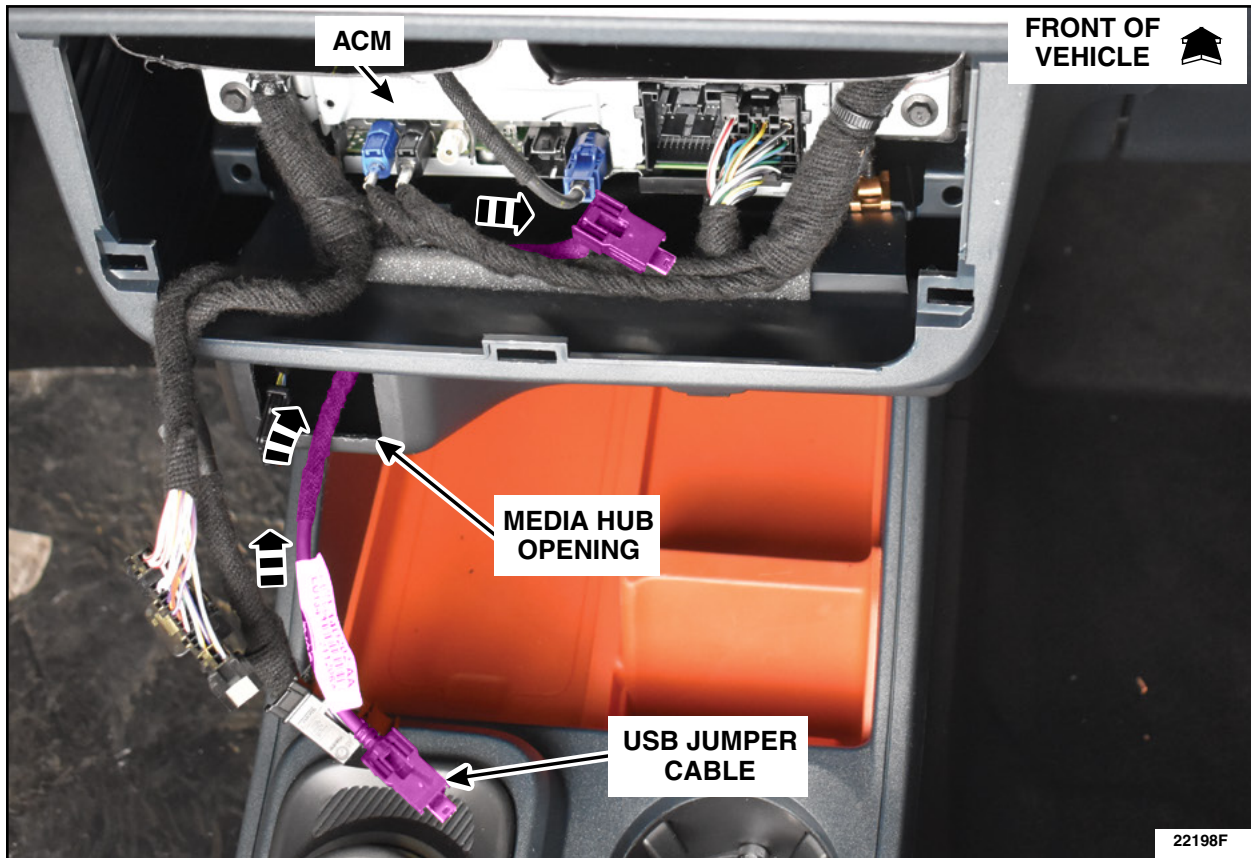

FIGURE 5
5. Route the tagless end of the USB Jumper Cable through the media hub opening and up to the Audio Front Control Module (ACM). See Figure 5.